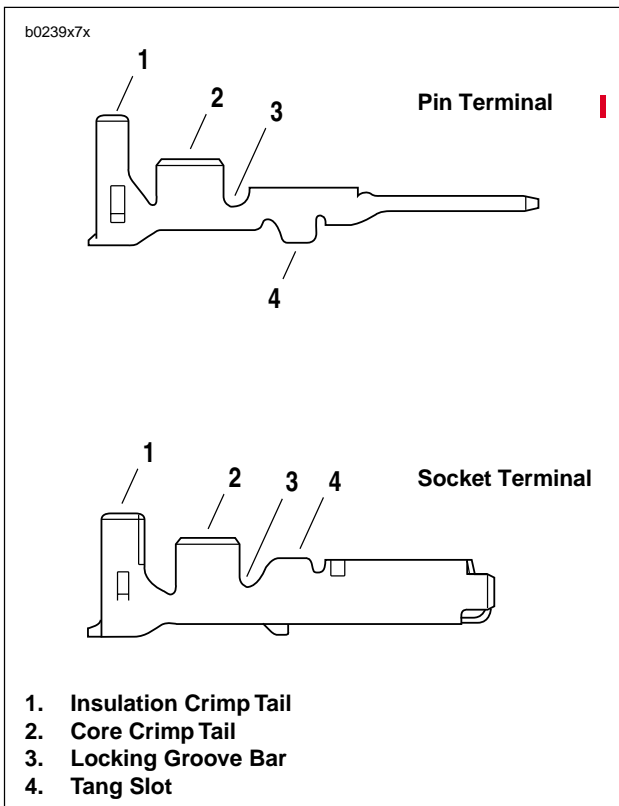

Figure 7-82. Crimps
6. See Figure 7-82. Inspect the quality of the core and insulation crimps. Distortion should be minimal.